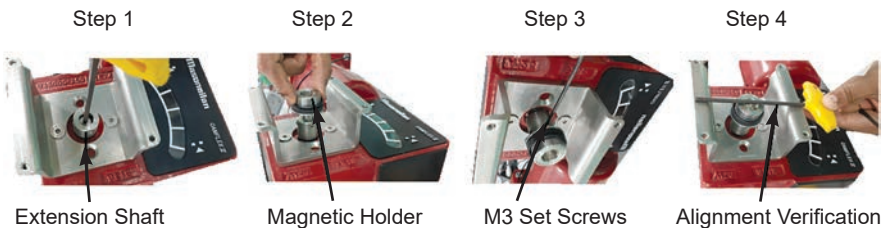

Figure 4 - Mounting Kit Assembly Procedure on Rotary Valve
2. By referring to Figure 4, perform the following actions:
Steps 2 & 3 - Secure the magnet holder with two M3 set screws and tighten using 3mm Hex Key (Step 3 in Figure 4 shows only 1 of 2 screws). Rotate the magnet holder so that the magnet axis is as per the specification in Table 1.